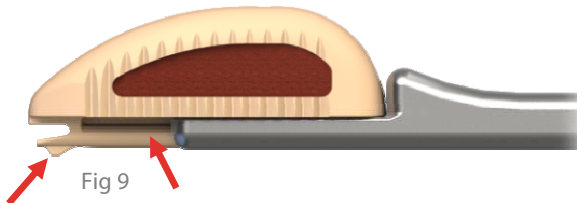

Fig 9
- Place bone graft material in the bone growth hole of each module (Fig 9).
- **Ensure that no bone graft material is in the implant's rail or lock (see arrows in Fig 9). Material in these areas can interfere with engagement and locking of the modules.**